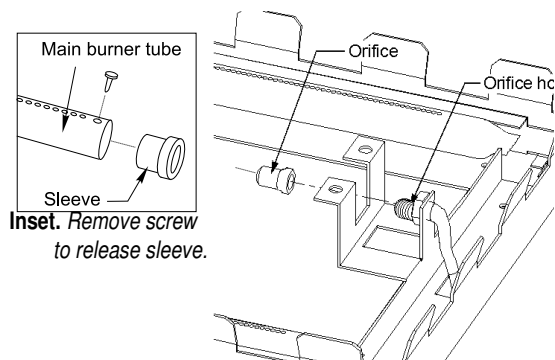

Figure 6. Changing main burner orifice.
11. Loosen the set screws at each end of the burner tube. Slide the sleeves out of each end of the tube and replace them with the ones from the package marked '**Main Burner Sleeves**' in this kit. (See Inset, Figure 6.) Re-tighten the set screws.
12. Remove the orifices from the orifice holder at each end and replace them with the new orifices from the package marked '**Main Burner Orifices**' in this kit. (See Figure 6.) **Make sure the Orifices are tightened securely to prevent gas leaks.**